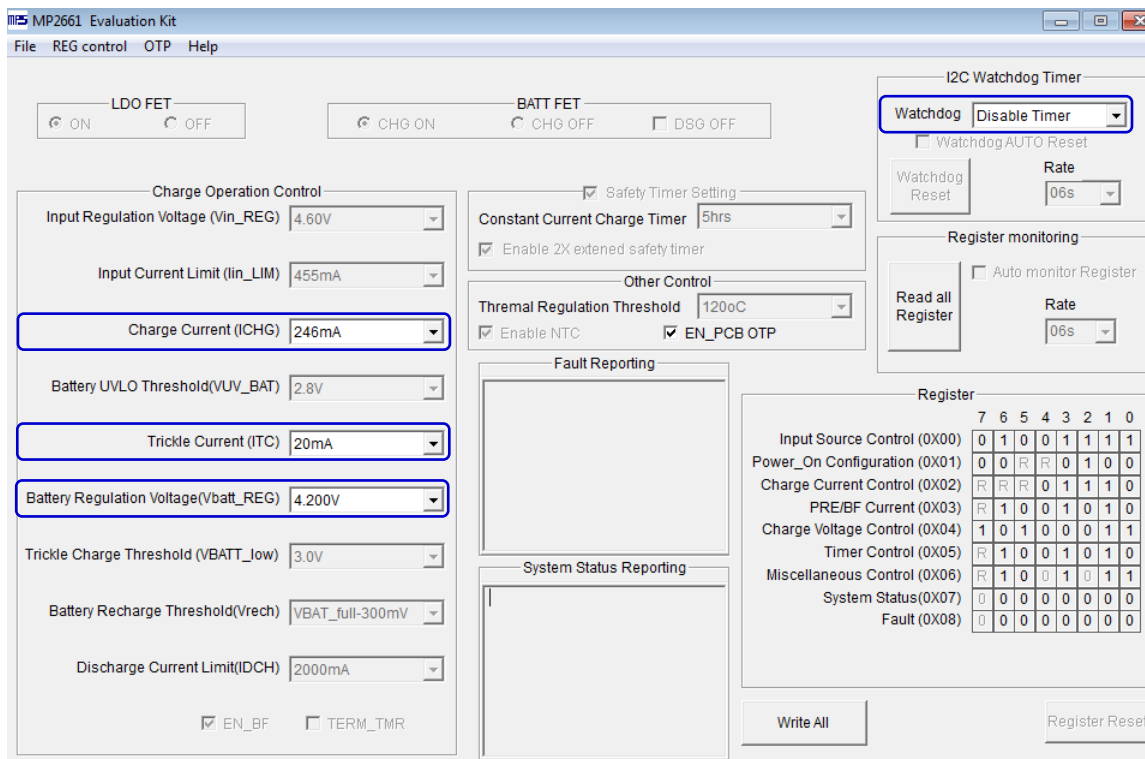

Figure 9: Parameters that can be adjusted in OTP Mode
4. Enter a new table (see Figure 9). You can change any parameters highlighted.